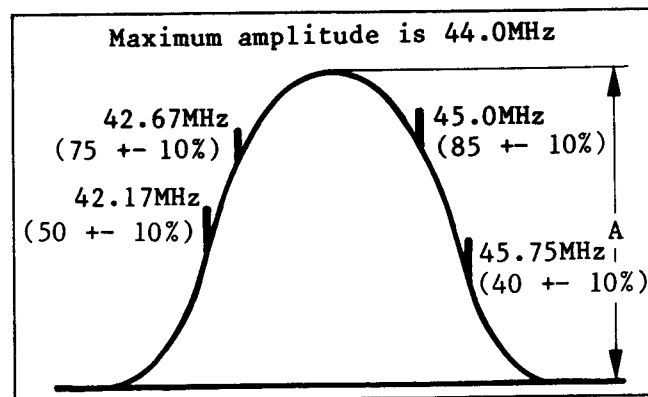

Fig. E38
13. Confirm that the Sweep output waveform is as shown in Fig. E38.